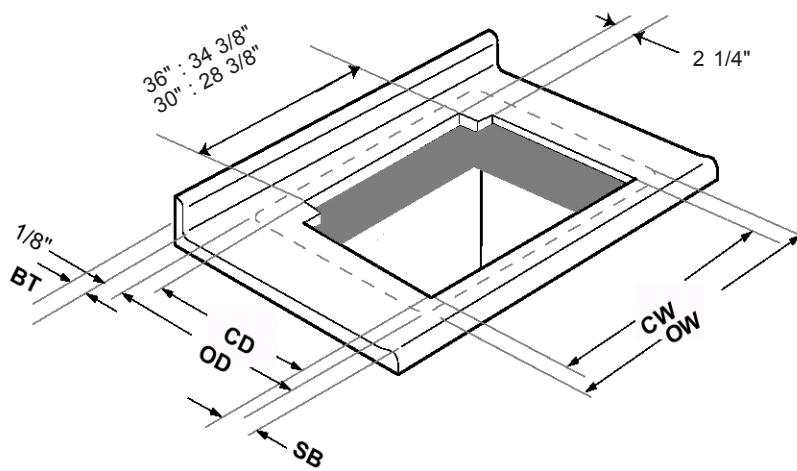

Figure 7
For installation with a Bosch cooktop, refer to Part A and Figure 7 (Page 7). For installation with another brand of cooktop, refer to Part B (Page 8).
- A. For installation with a Bosch cooktop (Figure 7 and Table 2)